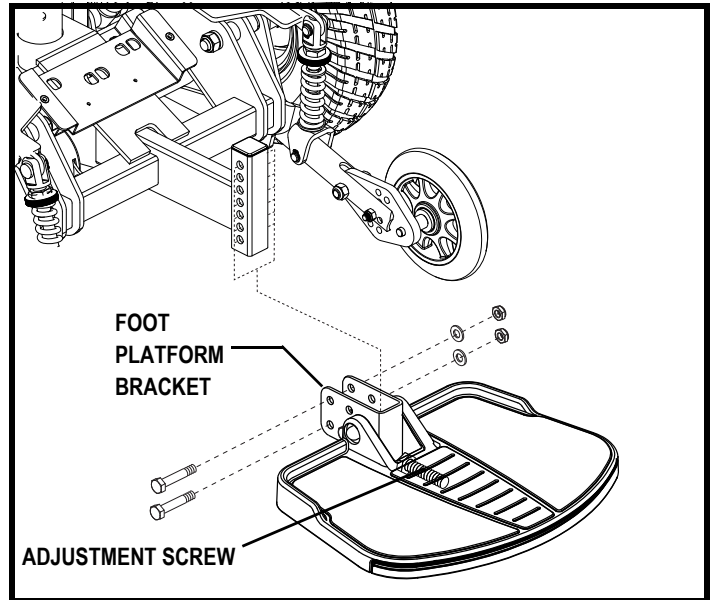

Figure 23. Select Foot Platform Adjustment
1. Remove the fasteners from the foot platform bracket. See figure 23 or 24.
You can adjust the angle of the foot platform. See figure 23 or 24.